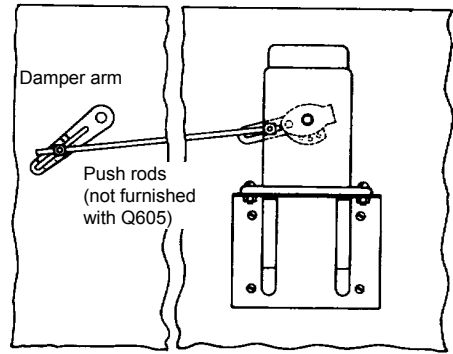

Fig. 6 Q605A Damper linkage
9. Fig. 6 to 9 show the typical examples of mounting.